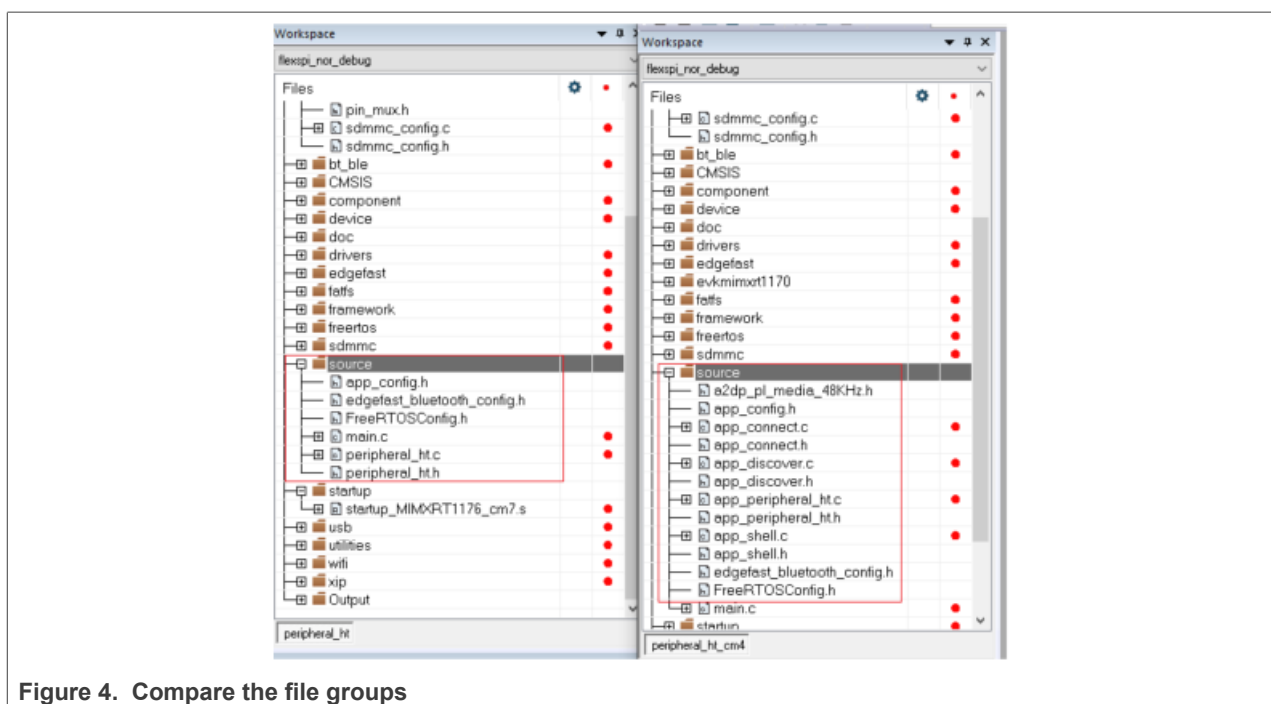

Figure 4. Compare the file groups
2. For example, in Figure 4, the files in the source group in the cm4 project must be removed, and the files in the path: `<install_dir>\boards\evkmimxrt1170\edgefast_bluetooth_examples\peripheral_ht` with the same name as the files in the cm7 project must be added into the *source* group.